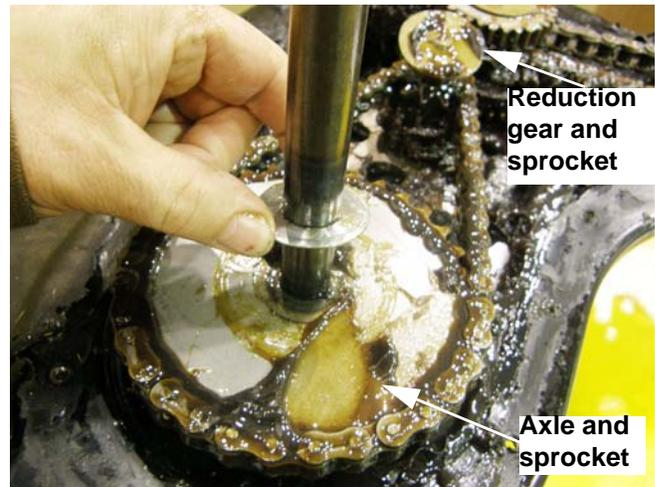

Figure 5.22
2. There is a washer between the sprocket and the upper half of the chain case housing. It may be on the axle shaft, or it may have come off with the upper housing. Confirm its location and remove it. See Figure 5.22.